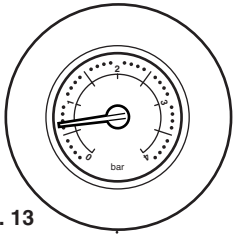

Fig. 13
2. With the system cold and the boiler not operating the pressure should be between 0.2 and 1.0 bar. During operation the pressure should not exceed 2.5 bar, and will normally be between 1.0 and 2.0 (Figs. 13 & 14).